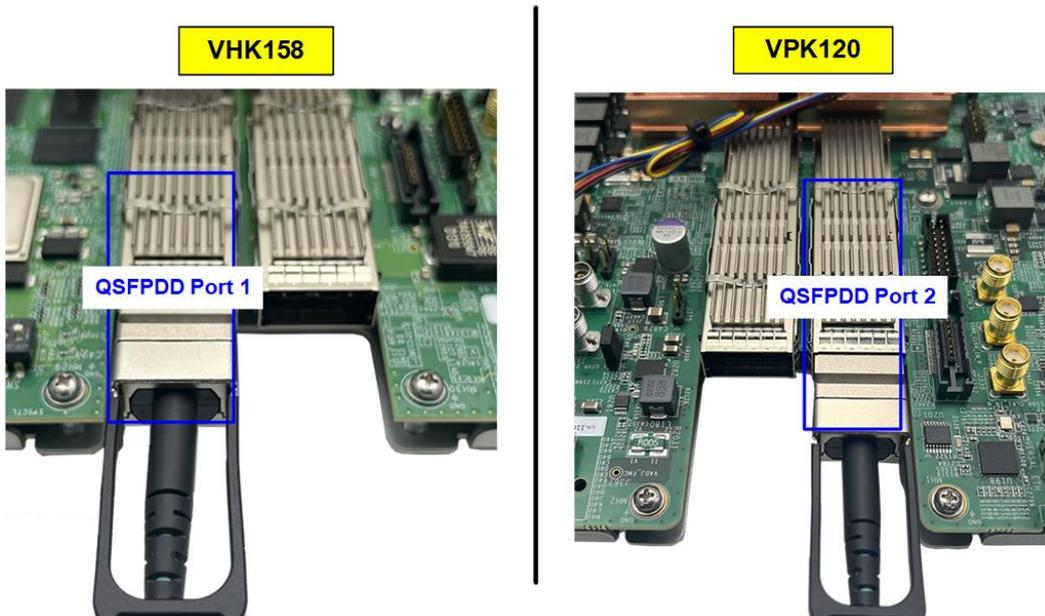

Figure 5 200G Ethernet Connection
- 2) Establish a connection between the FPGA board and the PC by connecting a 200G Ethernet cable. Insert QSFP56 AOC cable between the FPGA board and the PC, as shown in Figure 5.